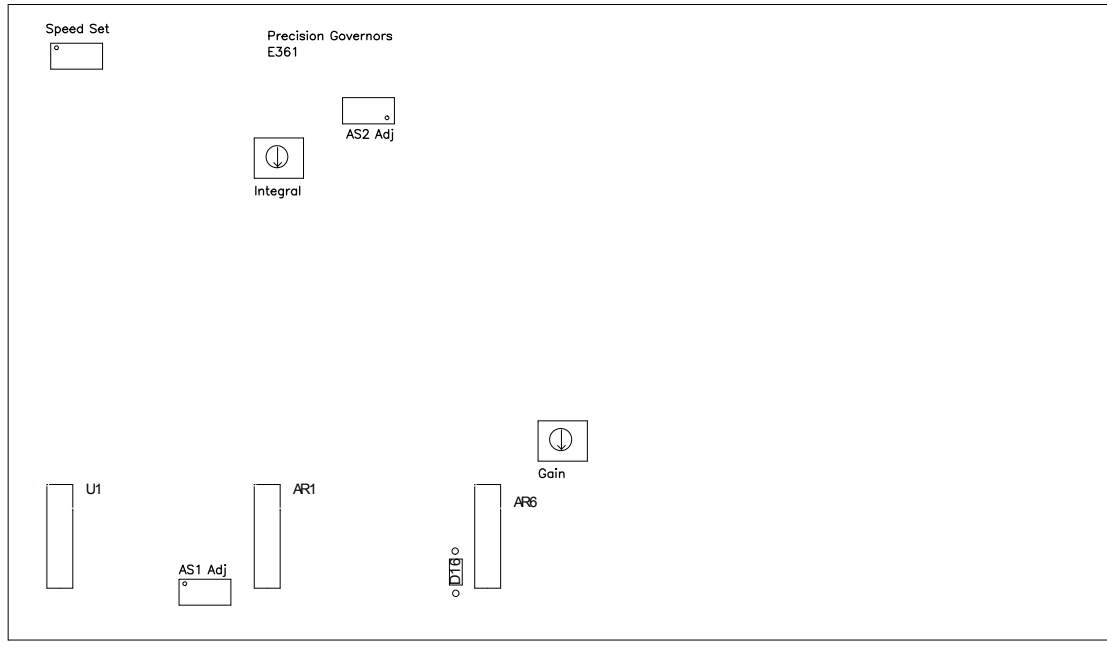

Figure 2 E-361 ELECTRONICS--ADJUSTMENT LOCATIONS
- 3) Set the machine to command high engine speed. Adjust the engine speed to the desired value using **Speed-set** pot. See Figure 2. Turn CW to increase speed, CCW to decrease speed.
- 4) Set Gain as required, using **Gain** pot. See Figure 2. CW increases sensitivity. Load and unload the engine to check for proper gain.
- 3) Before proceeding, familiarize yourself with the locations of the **Speed Set** pot and the **Gain** Pot, see Figure 2. Read the section on **Adjustments**.
- 9) Set machine controls to obtain the Aux speeds (if used). Adjust the AS1 and AS2 pots as needed to obtain the desired lower speeds. The controller has the ability to control 2 lower speeds. Either speed can be medium or low. Set the middle speed before setting the idle speed. Refer to Table 1 to determine the correct controller adjustment for each desired speed. If a governed idle speed is desired and the machine originally commanded low speed when neither of the Aux terminals was powered, the diode labeled D16 will need to be removed from the PCB. Clip one lead of this component. The location of D16 is illustrated in Figure 2. D16 is the only vertical component located between the black integrated chips labeled AR1 and AR6. If it is not known which adjustment is used for a particular speed on the machine, measure voltages on both Aux terminals and refer to Table 1. As machines have different speed settings and wiring differs between machines, consult machine service manuals for machine specific wiring and speed settings. Precision Governors does not have information as to how particular machines are configured, wired, or the proper speed settings.